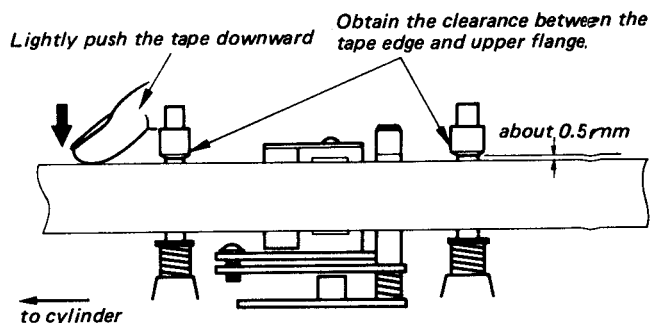

Fig. 5-126 Method to Adjust Exit Tape Path
- a. Adjust the clearance between the upper flanges and the tape upper portion is 0.5 mm approximately. (Fig. 5-126).